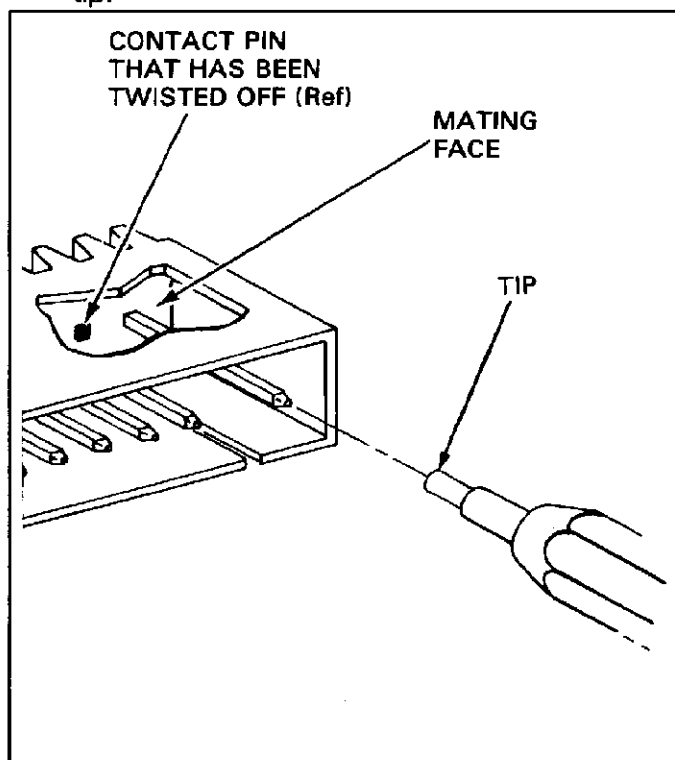

Fig. 3
2. Align the tip of the tool with the appropriate contact pin, as shown in Figure 3.